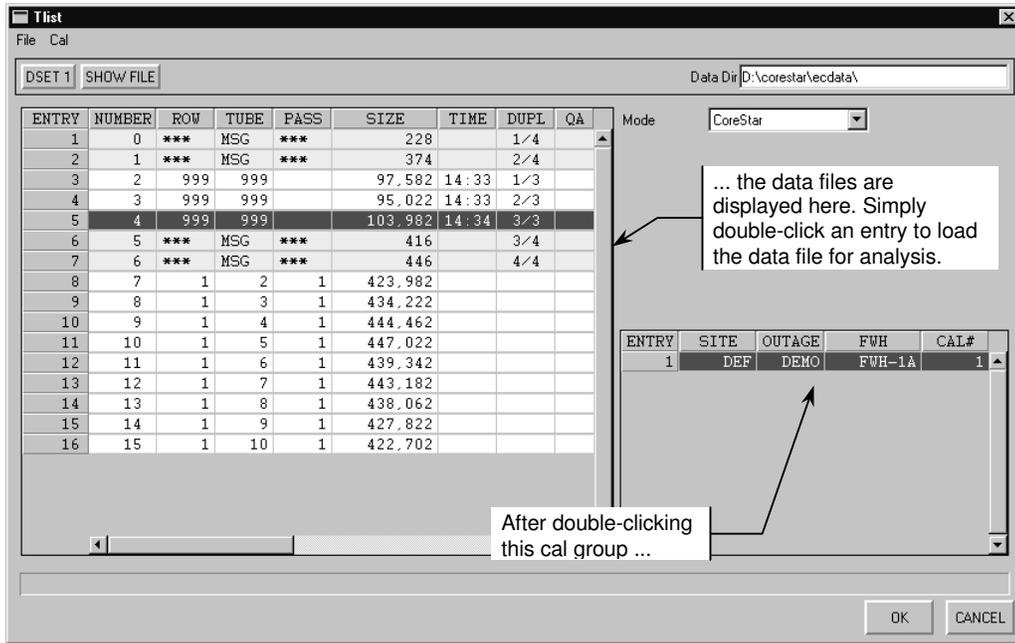
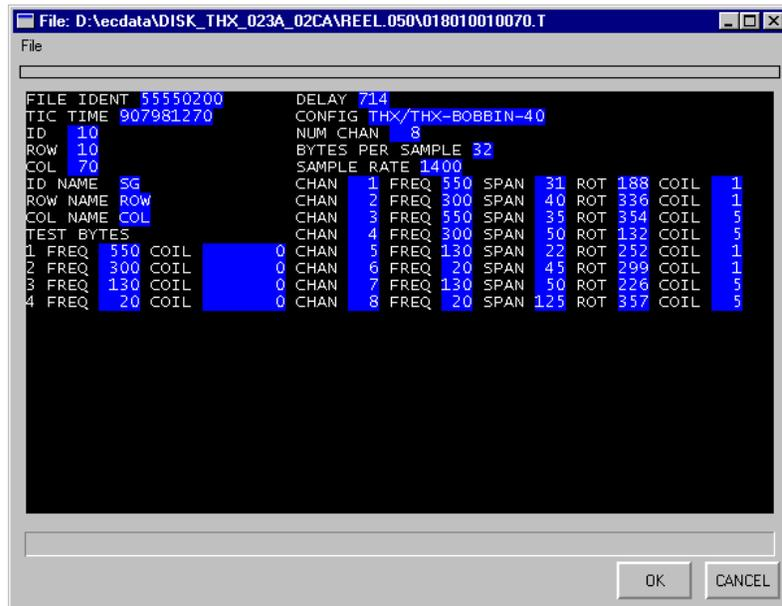

Figure 3-49. Opened Cal Group in TLIST Window
Figure 3-50. SHOW FILE Dialog
The **TLIST** shown in Figure 3-49 has more columns than the typical DDA-4 **TLIST** of the past. All the column names of the **TLIST** (left half of dialog) are listed below along with a description of each. Not all the columns are visible in Figure 3-49; however, the remaining fields can be viewed using the lower horizontal scroll bar.
DUPL	Indicates the number and total number of duplicate row and column entries. For example, Figure 3-49 shows that ENTRY #3 is the first of 3 calibration runs encoded as 999 999 within the opened cal group, i.e., 1/3.
1. The names of these columns vary based on the selected component file (.cmp). When .cmp files are created using the MakeComp software module, the names for ROW, COL, and SEC may be user-defined. Figure 3-49 shows these names as: ROW, TUBE, & PASS, which originate in the .cmp file for this example.
- TLIST > DSET 1 Button:** The **TLIST** dialog in Figure 3-49 contains a button along the top of the dialog called **DSET 1**, abbreviation for data set. This button allows the user to open up to four (4) cal groups concurrently. This is handy when doing historical comparisons. The **TLIST** dialog initially defaults to **DSET 1**. To open another cal group in another data set, **Shift+click** the **DSET 1** button until the desired data set number appears. Next, open the additional cal group using the same method as previously described.
- TLIST > SHOW FILE Button:** The **TLIST** dialog in Figure 3-49 contains another button along the top of the dialog called **SHOW FILE**. This function is only useful when analyzing ANSER-type data. **Clicking** the **SHOW FILE** button displays a typical ANSER header information dialog similar to the one shown in Figure 3-50 for the data file highlighted in the **TLIST**.